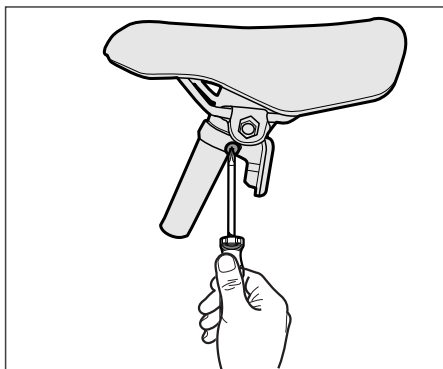

Figure 11
- Position the reflector so that it is perpendicular to the ground, and move it up on the seat post until it can be seen above the tire when viewing the bike from the rear (Figure 11).